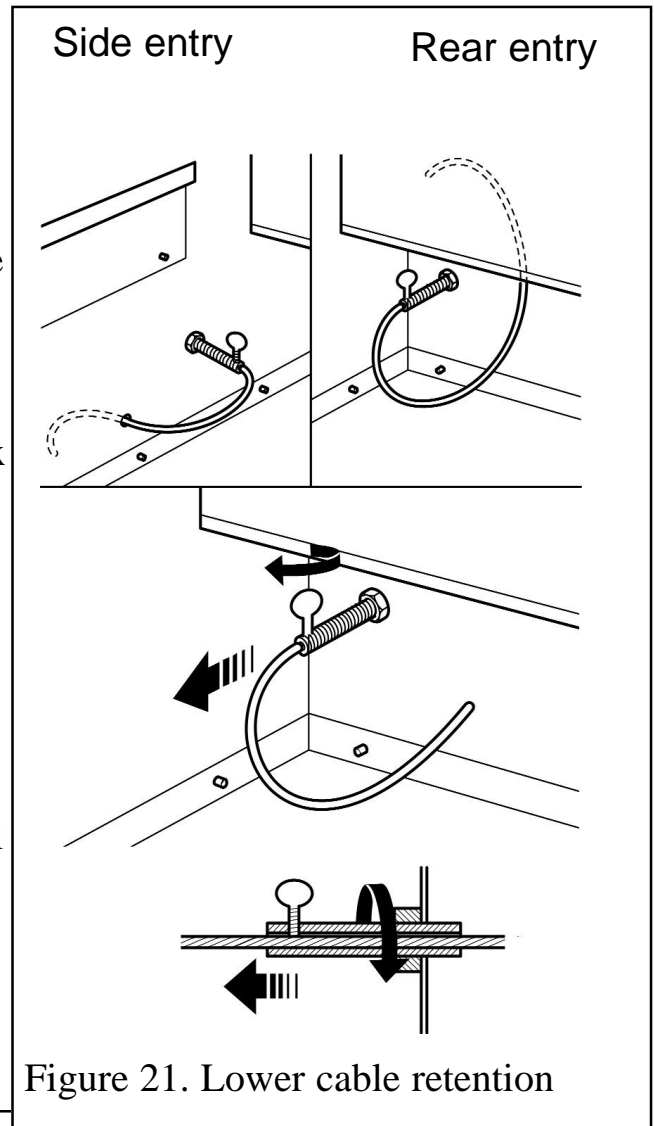

Figure 21. Lower cable retention
**11.** Pull each cable taut. Push the cable retainers hard up against the back panel. The end of the cable adjuster will pass into the hole. Tighten the screws in the retainers so that they clamp the cables in position. Apply tension to the cables by turning the hexagonal adjusters by hand (See figure 21).
**14.** Feed the free length of the cables into the gap between the inner and outer back panels so that they are available to allow easy removal and refitting of the appliance during subsequent service calls. **Do not cut off the free lengths of cable.** On precast flue installations feed the cables into the small holes at the base of the side panels (See figure 21)